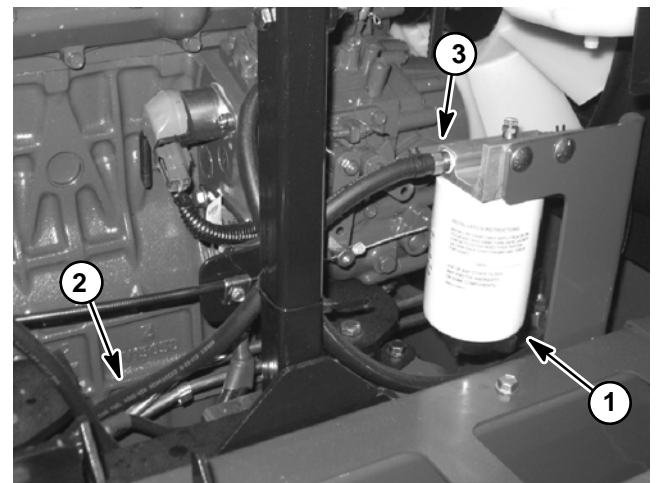

Figure 56
3. Disconnect fuel hose (pump discharge) from the fuel/water separator inlet fitting (Fig. 56).